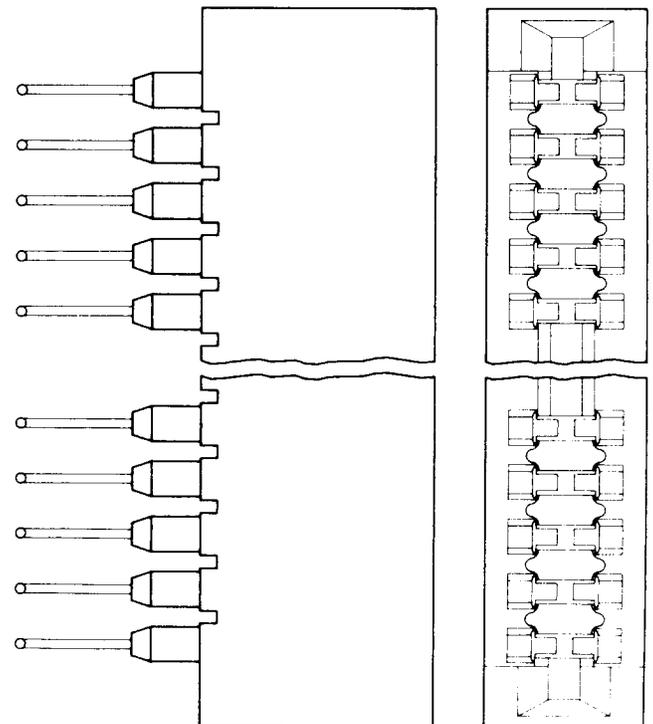

Fig. 20—KS-21271-Type Connector
**2.11 KS-21271, L1 Through L18:** The KS-21271-type (Fig. 20) are female, edge board connectors designed to be mounted on metal plates by press fitting them into punched hole patterns. The wiring ends of the connectors are arranged for solderless, wire-wrapped connections. The connectors may be ordered separately or as part of a panel. Some connectors have normally open, non-shorting contacts, and some have normally closed, shorting contacts. For more information, see Table F.